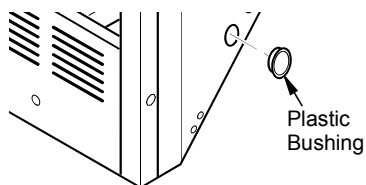

Figure 4 - Installing Plastic Bushing for Power Cord
- a. If your firebox is installed as a freestanding unit, determine whether the power cord will exit the left side or the right side of the firebox. Install 1 plastic bushing provided into the 1 1/2" hole in the floor support on the exit side. Install the second plastic bushing provided into the 1 1/2" hole in the outer casing through which the power cord will exit (see Figure 4). Route power cord through both plastic bushings and plug the power cord into a 3-prong grounded wall receptacle near the firebox.